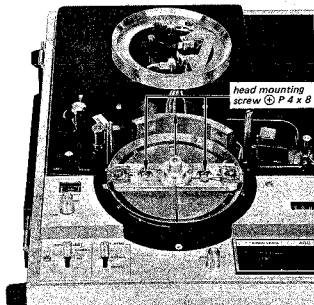

Fig. 4-2. Removal of video head assembly
6. Hold the Video Head Assembly to keep the platform from rotating and loosen the two  $+ P 4 \times 8$  screws that hold the head assembly to the platform. See Fig. 4-2. Do not put too much downward pressure on these screws; loosen the locking compound with Methyl Ethyl Ketone. Remove the screws and the washers.